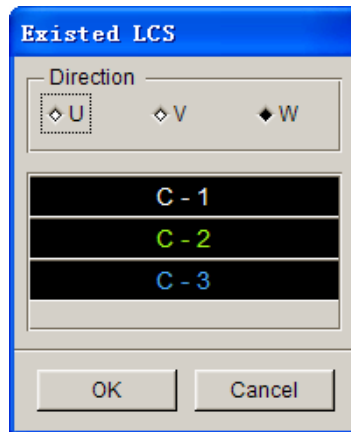

Figure 8.2.8 Select Existing LCS
**Existed LCS.** — This function allows the user to select a defined LCS X, Y, Z axis to be the direction vector. If there is no defined LCS in the database, the button turns gray. The user may use menu UTILICITIES/COORDINATE SYSTEM to define local coordinate system. After clicking this button, the program displays the select coordinate system dialog box as shown in Figure 8.2.8.